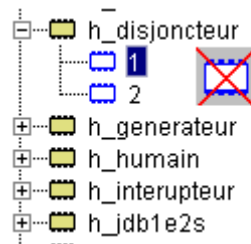

Figure 153 : Component selection
- ◆ Click on the tab **Components** and select the version number of the component to insert in the current architecture (Figure 153).